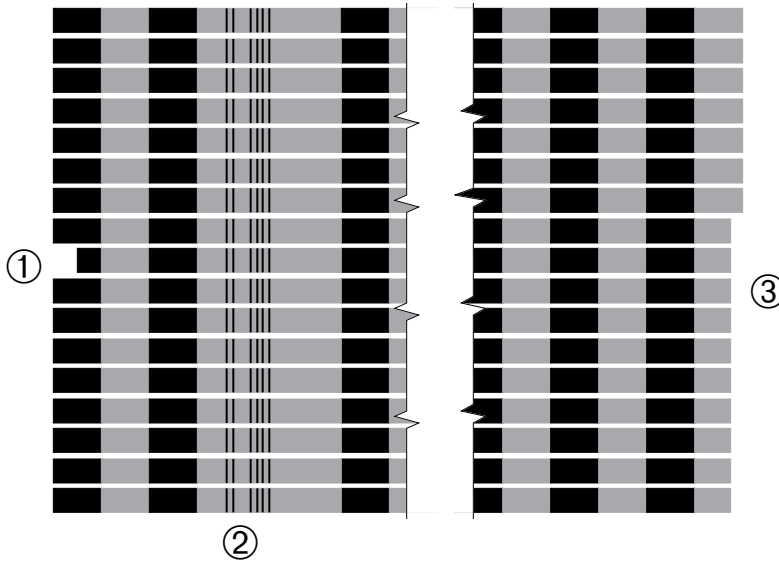

Figure 5.1. An example of a test page.
- ①—Reference band, indicated by an indent at the left side of the test page.
- ②—Imaging resolution, indicated by a bar code.
- ③—Increment value, indicated by indents at the right side of the test page.
- A *reference band* near the center of the page is imaged at the current exposure set in the Cassette Screen. The reference band is indented at the left end of the test page. See ① in Figure 5.1.